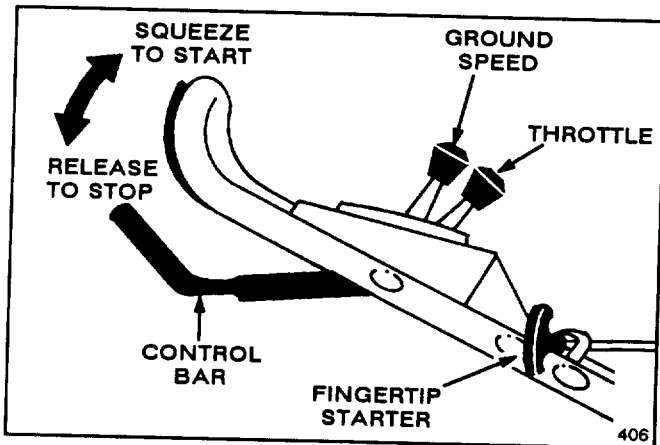

Figure 5
1. **CONTROLS**—Throttle, ground speed control, control bar, and fingertip starter are on upper handle (Fig. 5).
3. **STARTING**—Move ground speed control to "N" and throttle to CHOKE. Lift control bar to handle (Fig. 5) and hold. Pull fingertip starter out until positive engagement results; then pull vigorously to start the engine. When engine starts, remove throttle from CHOKE and regulate as desired.
4. **GROUND SPEED** (Fig. 5)—Move ground speed control to desired setting. Number "1" is slow, "2" is medium, and "3" is a fast walking pace. Move ground speed control to "N" when using the mower for trimming and whenever leaving mower.